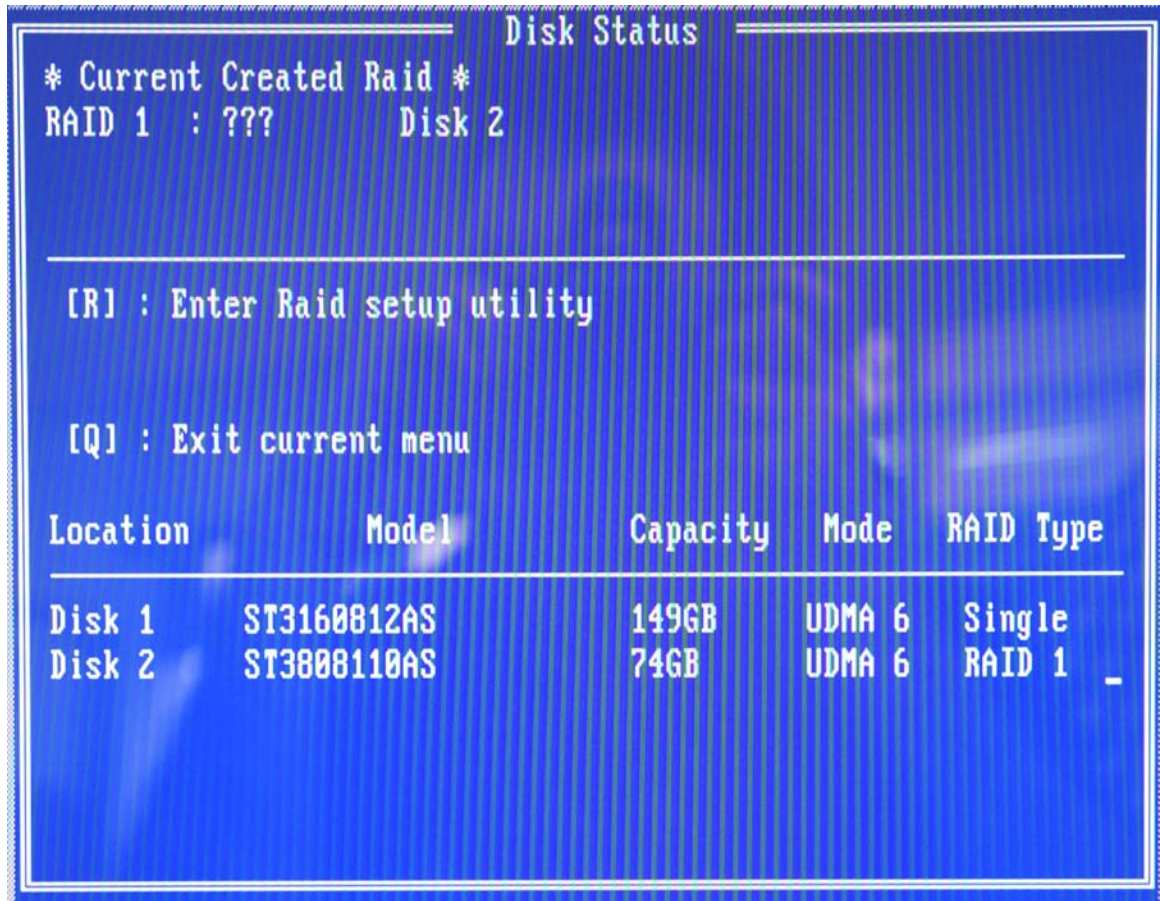

Figure E-4: BIOS RAID Utility
- Step 2:** The system prompts the user to press <CTRL> and <S> to enter the BIOS RAID Setup Utility (see **Figure E-4**).